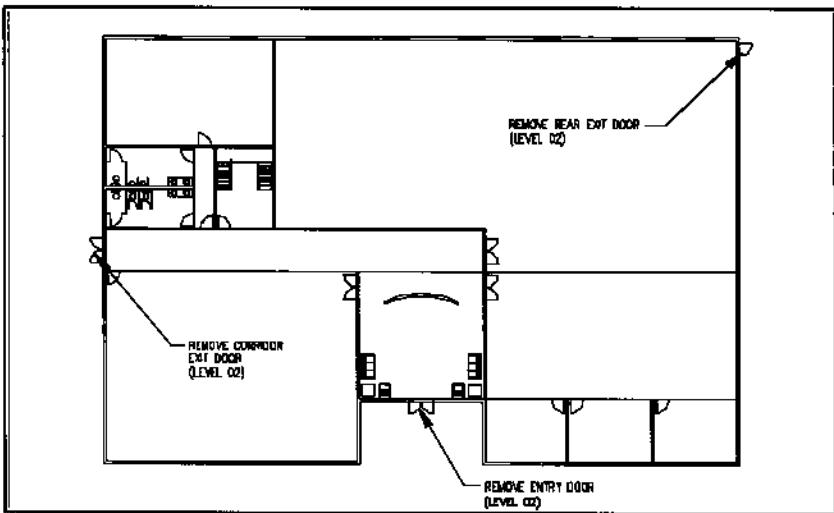

Figure 16.
1. Before creating level FL03, the three exterior doors on Level FL02 shown in Figure 16 must be removed.